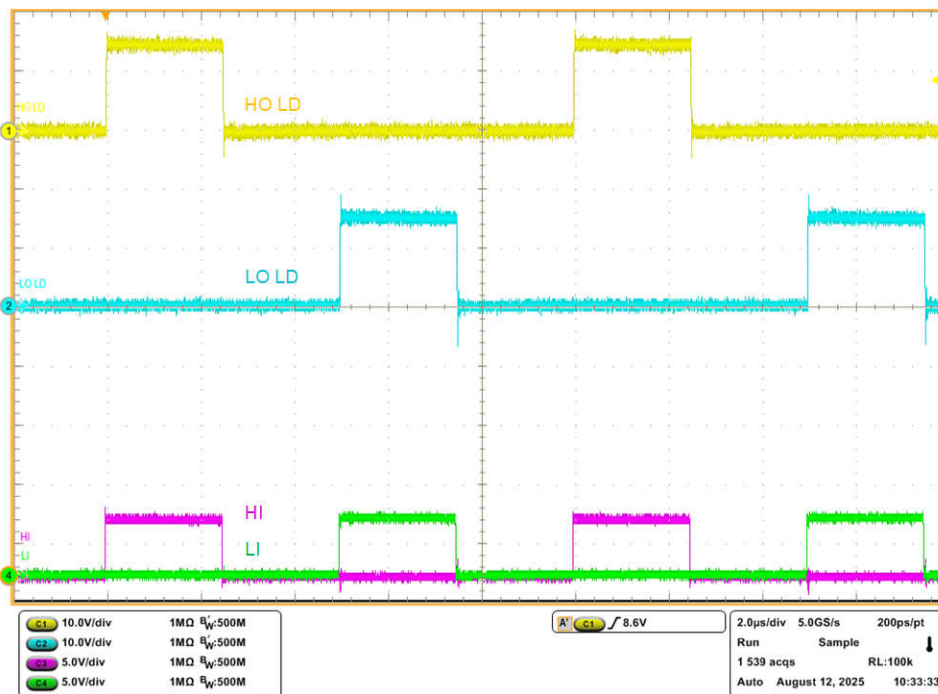

Figure 5-2. Example Input and Output Waveforms (Green and Magenta are PWM Inputs, Yellow and Blue are Driver Outputs)
- Stable pulse output on channel-1 and channel-2 in the oscilloscope, refer to Figure 5-2